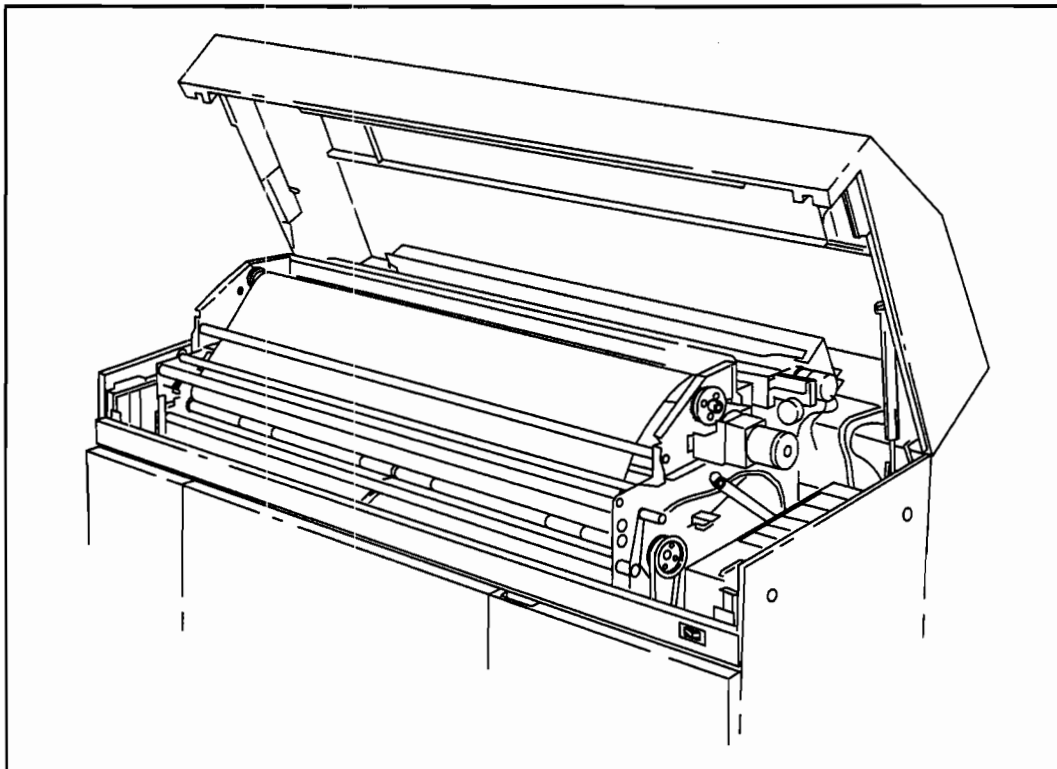

Figure 3-30. Take-Up Reel Operation
4. Manually advance the spindle to take up the slack in the media and make at least one complete wrap around the spindle. See Figure 3-30.